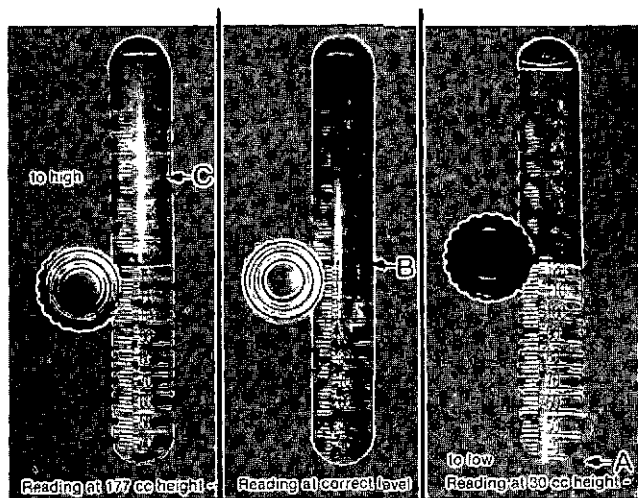

Fig. 4-54, (F60210). Read the vial test oil level at the correct height
20. Look directly into the vial at the test oil level to avoid parallax. If this reading shows 129 cc which is 3 cc below the ST-1210 injector master delivery specifications (132 cc @ 120 psi), or another value, repeat the test, Fig. 4-54.